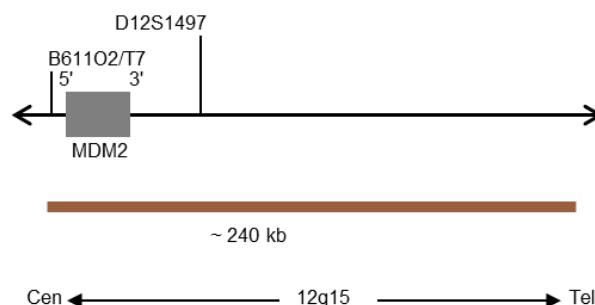

Fig. 1: SPEC MDM2 Probe map (not to scale)
- Digoxigenin-labeled polynucleotides (~1.8 ng/ μ l), which target sequences mapping in 12q15* (chr12:69,190,708-69,430,185) harboring the MDM2 gene region (see Fig. 1).